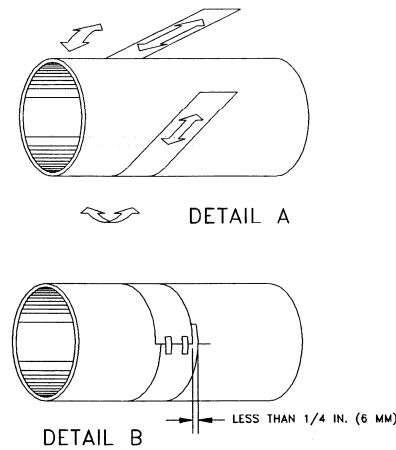

Figure 2.7
1. Wrap the paper around the pipe in the manner shown in **Figure 2.7**. Align the paper ends to within 1/4 inch (6mm).